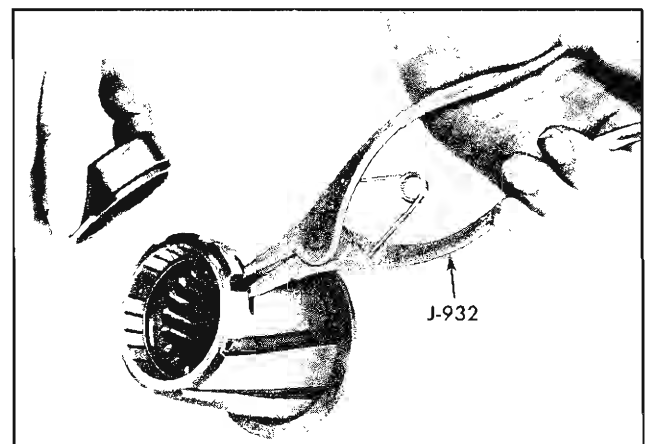

Fig. 7-30 Removing Synchronizer Ring
3. Using Tool J-932, expand retainer into counter-bore in clutch sleeve. This raises retainer from groove in ring so ring may be easily slipped out (Fig. 7-30).